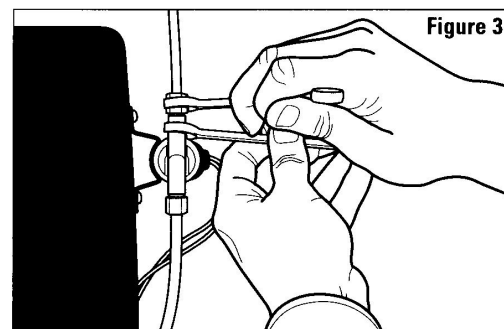

Figure 3
**7.** Connect tubing from the saddle valve to the inlet side of the solenoid valve using 1/4" O.D. copper tubing (not furnished). **DOUBLE WRENCH TO PREVENT LEAKING!** (See Figure 3)